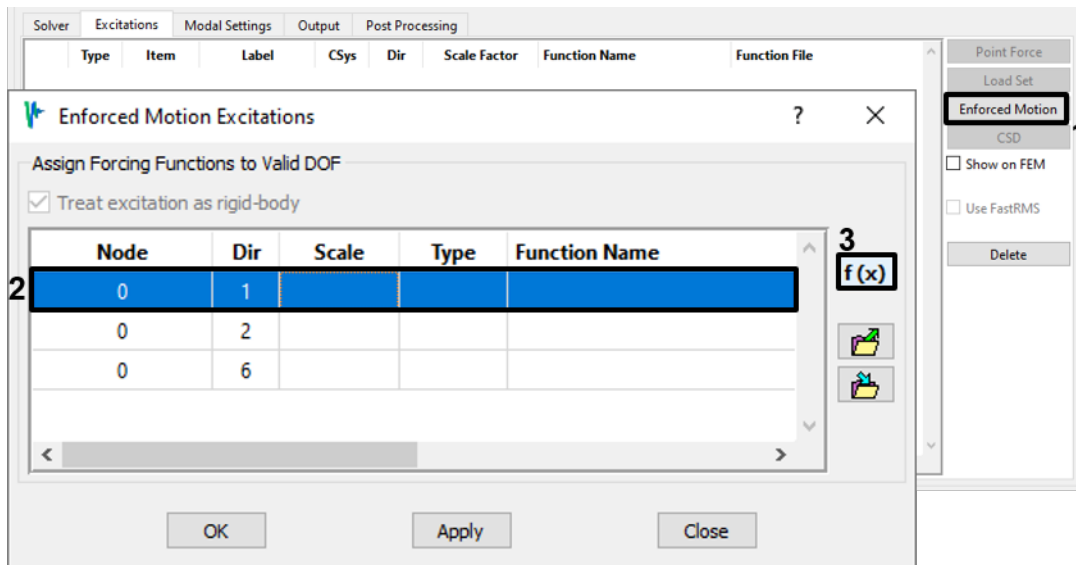

Figure 4-78. Assign an enforced motion function to direction 1.
- Response spectra are applied as enforced motions, so go to the *Excitations* tab and bring up the *Enforced Motion Excitations* dialog (Figure 4-78). Note that no motion out of the XY plane is offered; those degrees of freedom were removed from the model, so no modes have any effective mass in those directions. Select the X direction (direction 1) and click the **f(x)** button to bring up the Function Manager.